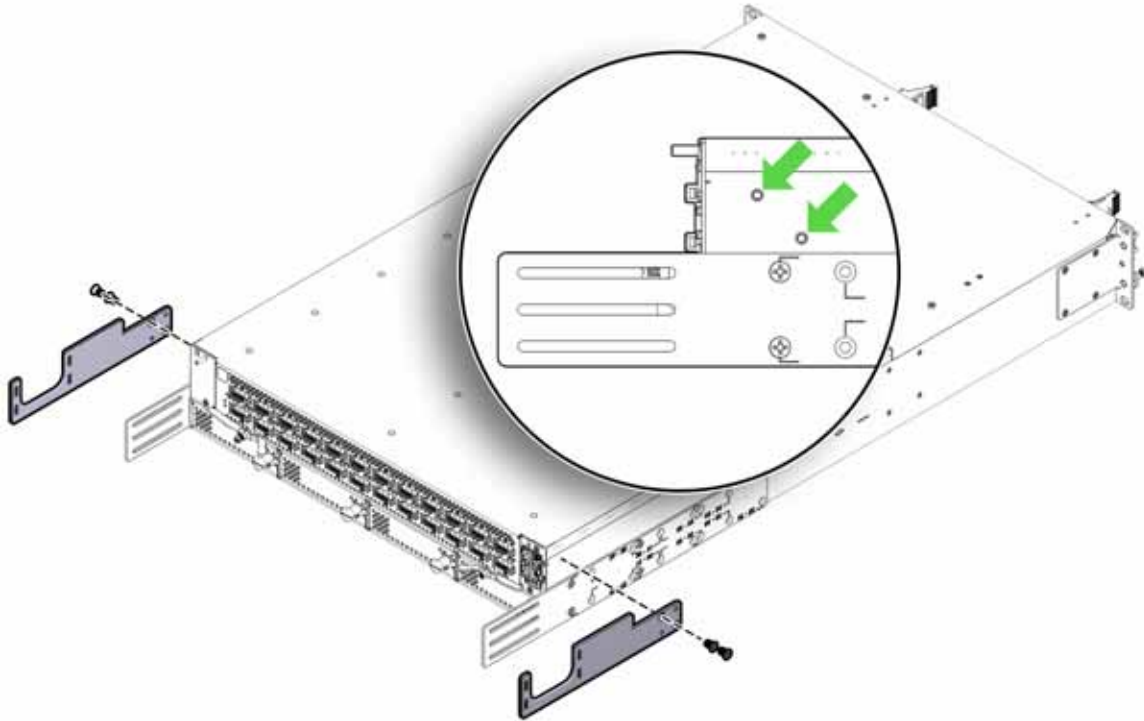

Figure 11 Installing the Optional Cable Management Brackets
- Step 8** As an option, you can install the cable-management brackets now as shown in Figure 11 on page 27. They can be installed above the rack-depth measures on the I/O-module end of the chassis. The cable-management brackets require two (2) M3.5 countersink screws per bracket.